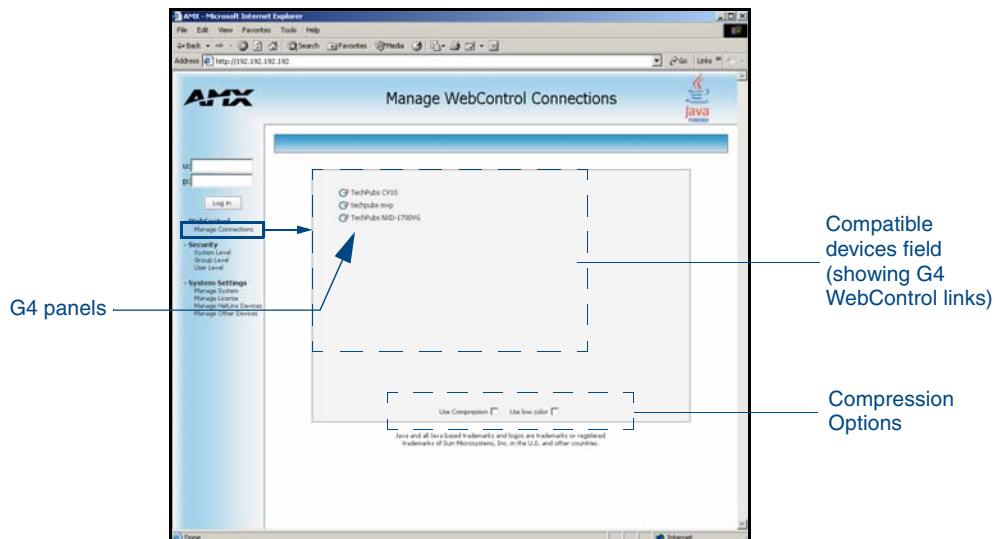

FIG. 53 Manage WebControl Connections page (populated with compatible panels)
5. This Manage WebControl Connections page (FIG. 53) is accessed by clicking on the **Manage connections** link (*within the Web Control section within the Navigation frame*). Once activated, this page displays links to G4 panels running the latest G4 Web Control feature (*previously setup and activated on the panel*).